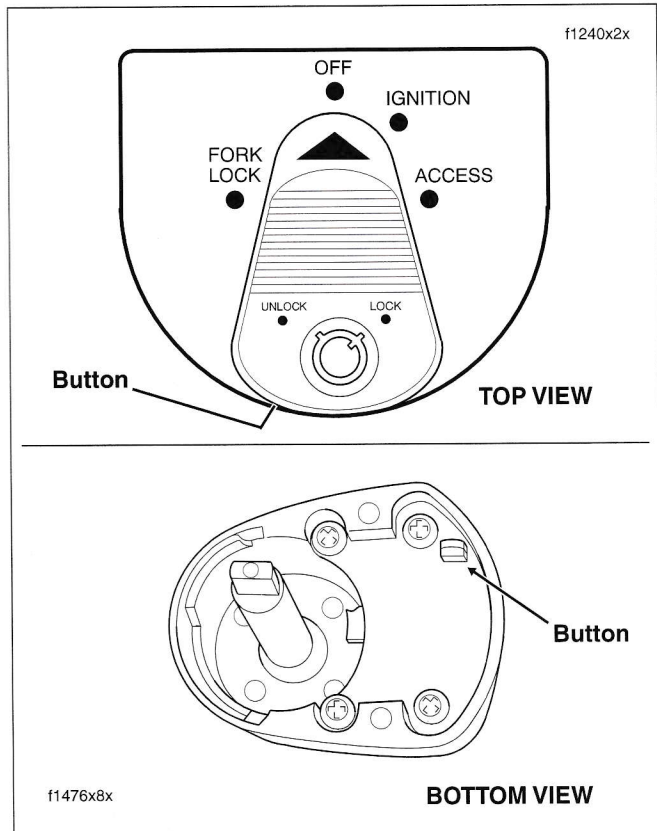

Figure 8-62. Ignition Switch Knob Release Button
2. To remove the ignition switch knob, insert the Ignition Switch key and turn to the UNLOCK position. Leaving the key installed, rotate the knob to ACCESS. Depressing the release button at bottom (left side) with a small screwdriver, push key down and turn an additional 60 degrees in a counter-clockwise direction. Lift and remove knob. See Figure 8-62.